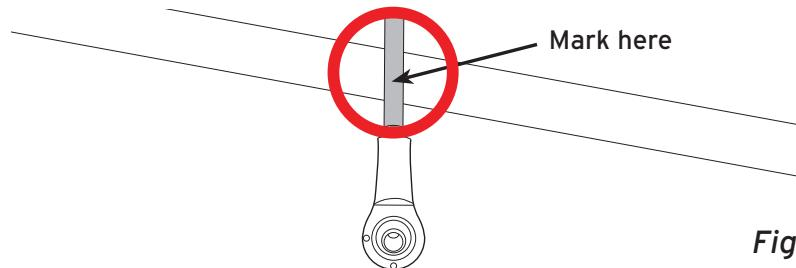

Fig. 13
5. If shortening the rod linkage is necessary, mark the rod cover where the mounting location intersects with the intended mounting location (Fig. 13).